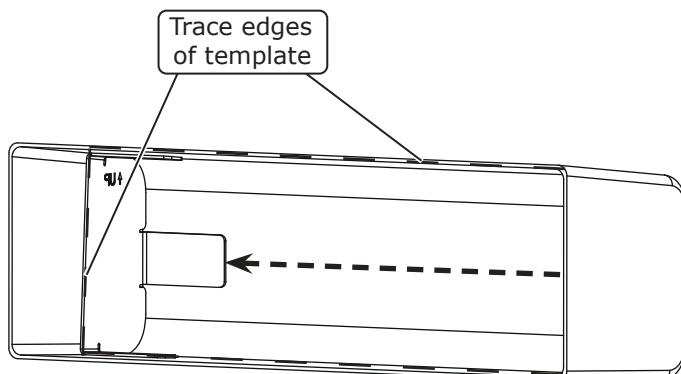

Figure 3
2. Use the template as a straight edge to make a cut line around the inside of the glove box with a marker by sliding the template along the inside and tracing it (See Figure 3, below).